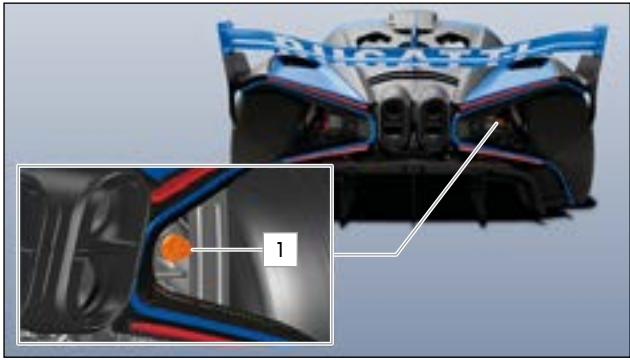

FIG.100 AIR JACK CONNECTION ON THE REAR
- ▶ Connect a compatible fitting on a compressed air hose to the valve 1 (» Fig.100). Maximum operation pressure is 40 bar (580.15 psi).
- ☑ The valve 1 (» Fig.100) will close automatically and maintain air pressure in the system and the air jacks in the extended position.
- ▶ Open the valve by pulling the sleeve 1 (» Fig.100) outward.